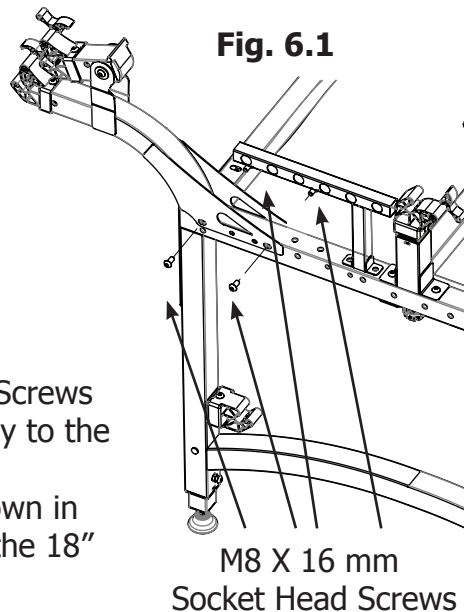

Fig. 6.1
6-1: Using (4) M8 X 16 mm Socket Head Screws attach the Right Front Rail Support Assembly to the right front corner of the frame using the corresponding hole for your machine as shown in Fig. 6.1 for the 26" Machine or Fig. 6.2 for the 18" Machine.